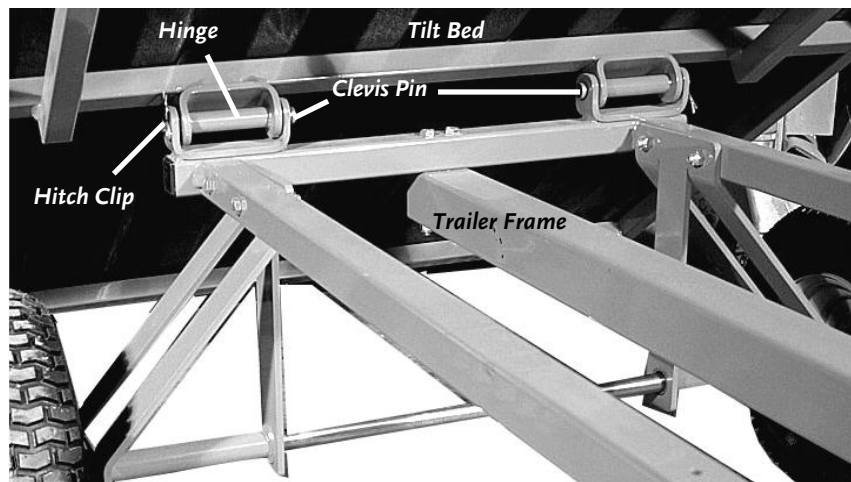

Figure 7
2. Align the left hinge on the Tilt Bed with the left hinge on the trailer frame (**Figure 7**).
3. Insert a Clevis Pin through the mated hinges and secure with a Hitch Clip (**Figure 7**).